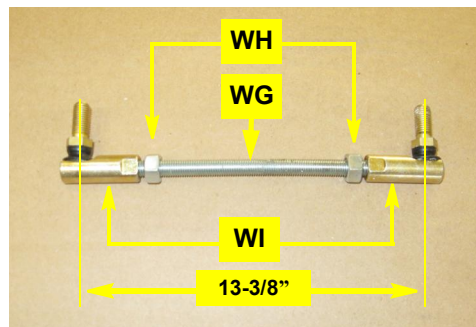

Figure 1d: Assembled threaded link rod
- d. Screw swivel rod ends **WI** onto threaded rod **WG** to achieve a center-to-center stud measurement of 13-3/8" (Figure 1d - not to scale). Leave **WH** loose until you complete linkage adjustment at step 2f.